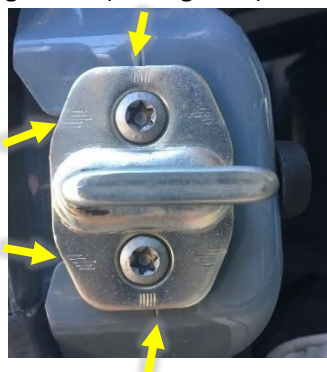

Figure 1: Factory Latch Alignment
3. Take a picture of the center, inside latch for later re-alignment (see Figure 1).
16. Install the inner driver door bracket while re-aligning latch pin as close as possible to factory position (use previously taken picture as a guide, reference Figures 1 & 5).
31. Loosely install the bolt-on tire/box supports onto the bottom crossmember of the rack as shown in Figure 1.